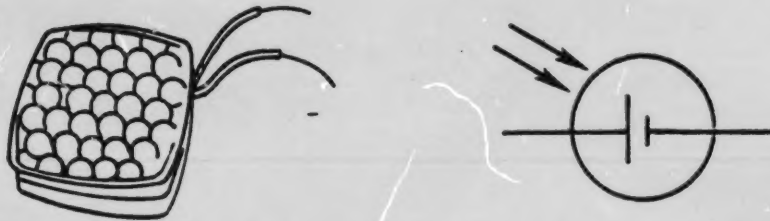

Figure 12
- ⑭ A device which converts light energy into electrical energy is called a photovoltaic cell. More popular names you have heard are "solar cell" and "solar battery". A solar cell is a device that acts like a battery with light providing the energy source. An example of a solar cell and the schematic symbol are shown in Figure 12.